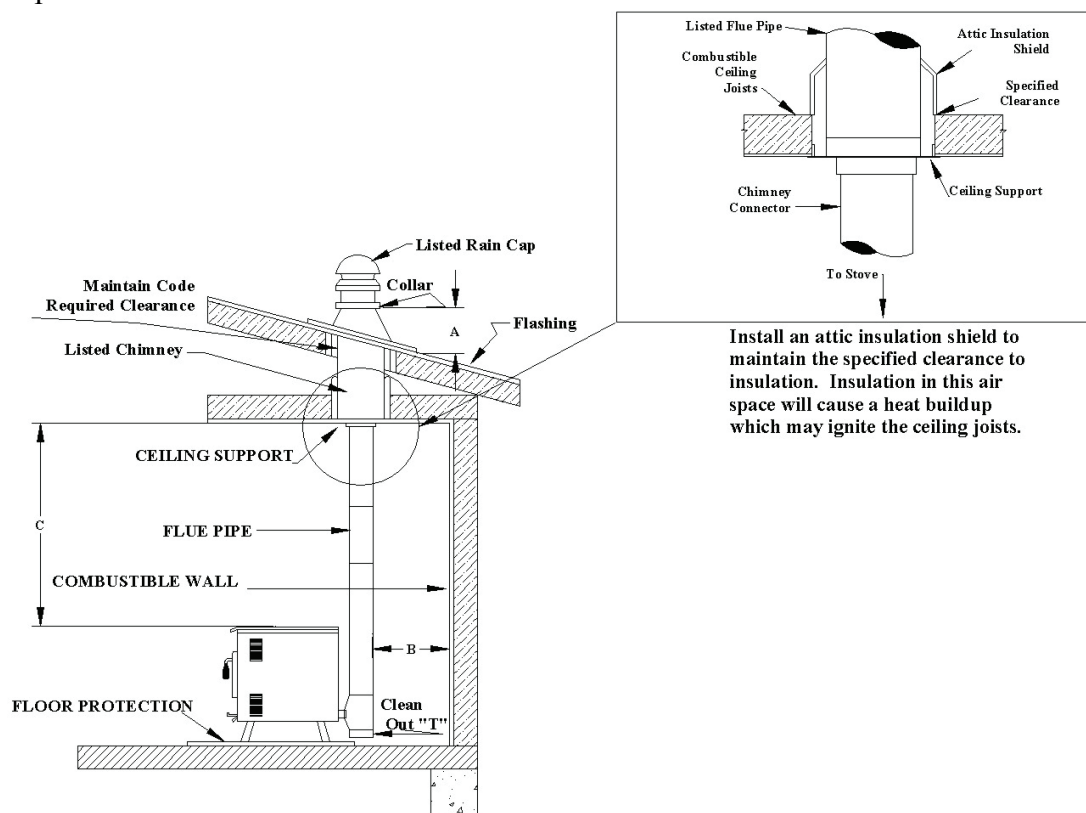

FIGURE 2: TRADITIONAL VENT PIPE
7. FIGURE 2 shows a traditional, as well as more efficient, flue pipe installation. Note the dimensions that are required to be maintained in this type of installation. Dimensions are A equals a minimum of 24", B equals a minimum of 3", and C equals a minimum of 6". Again, check with the flue pipe manufacturer's installation instructions and code requirements for exact specifications. DIMENSIONS: